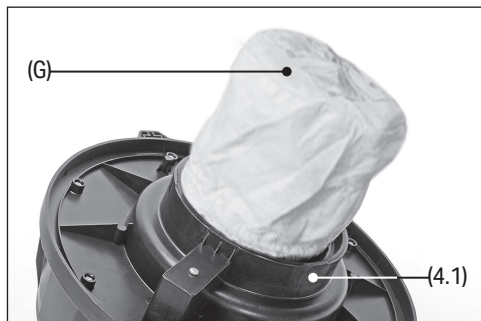

Fig. 5
2. Fit the cloth filter (G) over the filter cage (4.1). Ensure that it is pushed down securely and fully covers the filter/float cage. (Fig. 5).